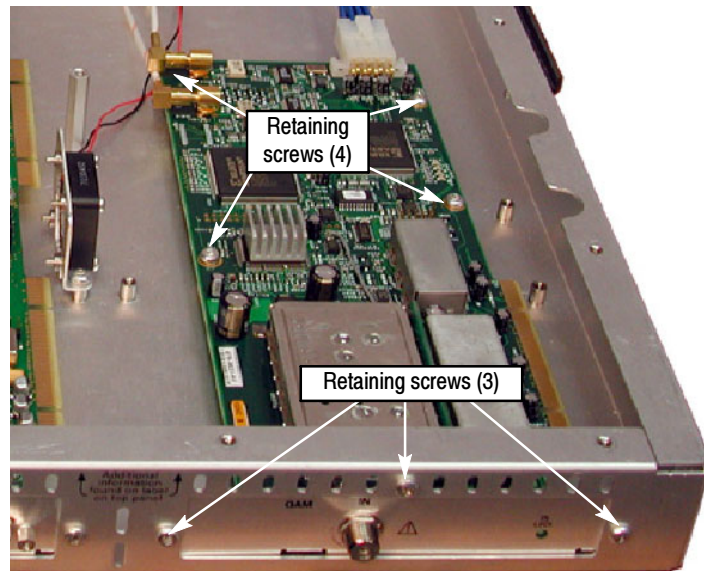

Figure 20: Retaining screw locations for QAM (Annex A), QAM (Annex B, old version), QAM (Annex C), and QPSK (L-BAND) interface boards
- a. For QAM (Annex A), QAM (Annex B, old version), QAM (Annex C), and QPSK (L-Band) interface boards, remove the four retaining screws from the board and remove the three retaining screws from the rear panel as shown in Figure 20.
- a. For QAM (Annex A), QAM (Annex B, old version), QAM (Annex C), and QPSK (L-Band) interface boards, install the four retaining screws in the board and install the three retaining screws in the rear panel as shown in Figure 20.